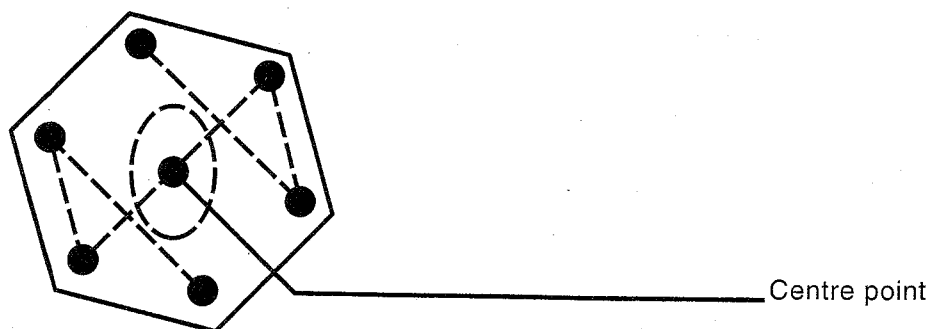

Fig 13 Matrix Vector Diagram.
1. The signal from AM/FM signal generator which is set at 5.5MHz with AF400Hz, 30% FM modulation, is applied to TP107 (between C127 and C128) through a 1K ohm resistor and a 1000pf capacitor as shown in Fig. 13.
- (c) Channel 1 (X) is connected to TP206 (pin 21 of IC202) (R-Y)
- (d) Channel 2 (Y) is connected to TP207 (pin 22 of IC202) (B-Y)
- (e) Adjust amplitude balance VR202 until the centre points of the two wave forms bring together (Fig. 13)
- (f) Adjust T205 until all other points of two waveforms bring together (Fig.13)